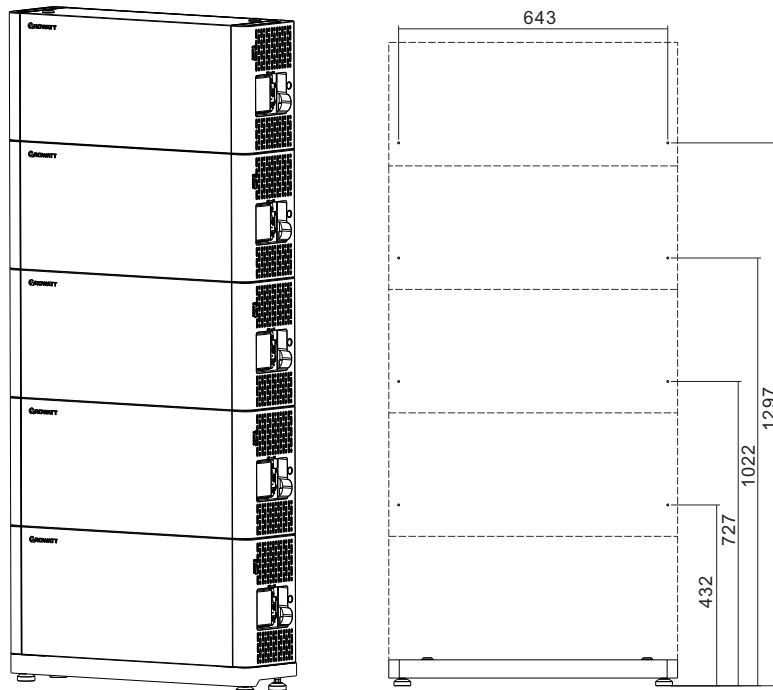

Figure 4.7: Mounting Hole Dimensions
Step 2: Move away the battery. Determine the hole positions for mounting the remaining batteries according to the dimensions shown in Figure 4.7, and mark the hole positions using a marker.